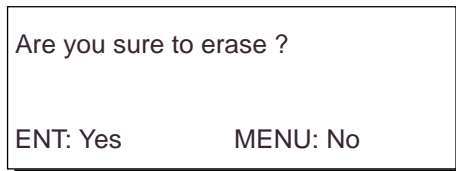

Figure 2-6 Prompt for erasure of track
- 4) Press ▶ to select Yes. The message shown in Figure 2-6 appears.